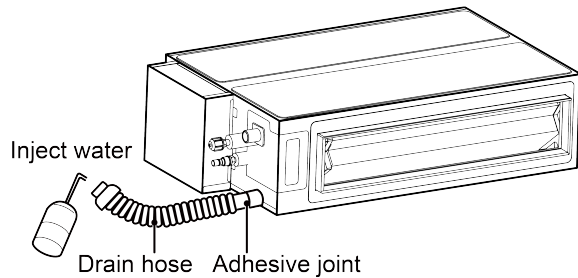

Fig 4.18
- 1) Connect the drain hose to the other drain connection pipe of water tray and fill about 1L water (as shown in Fig 4.18). (Remove the drain hose after finishing testing and then put on the plug of water tray.)